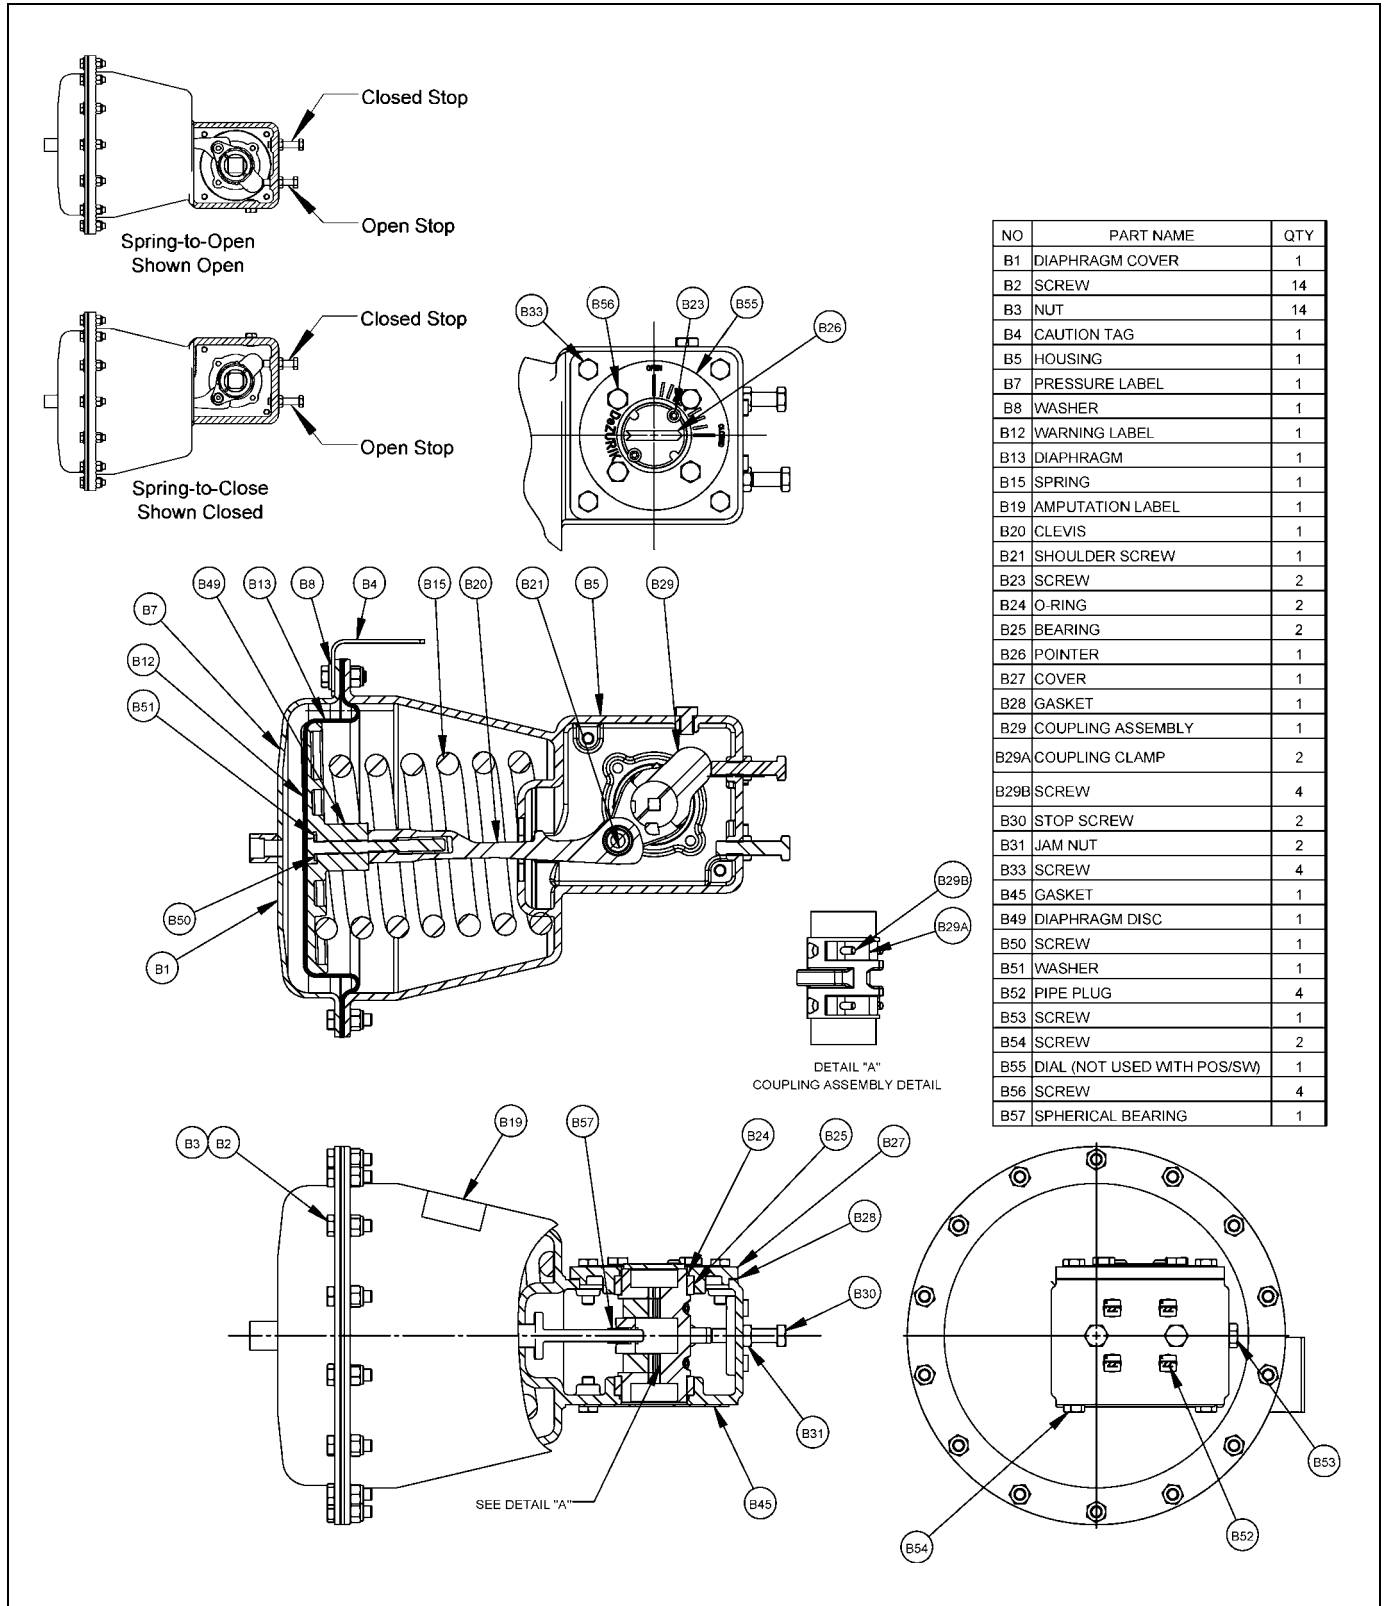
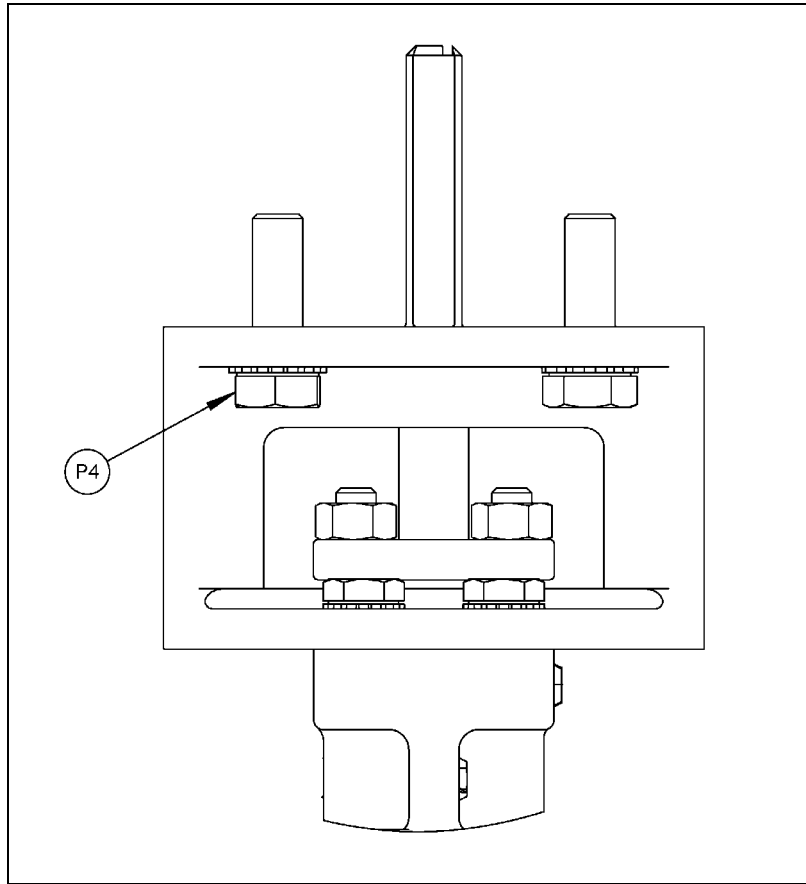

Figure 1—Parts Identification
Figure 2— Connecting Parts Identification
For high vibration installations, additional mounting support is recommended on the diaphragm end of the actuator to prevent damage to the actuator and/or the piping system. Mount the support from the pipeline to at least two of the diaphragm cover screws (B2) shown in Figure 1. Tighten the screws to 80 ± 2 inch pounds (9.0 ± 0.2 Nm).
The actuator is powered pneumatically, and rotates 90 degrees between the open and closed positions. The action of the actuator is either spring-to-close or spring-to-open, as determined by which side of the actuator is mounted to the valve, as shown in Figure 1. The action selected is shown on the actuator label. With spring-to-close, increasing signal pressure to the actuator opens the valve, and decreasing pressure closes the valve; with spring-to-open, increasing pressure closes the valve, and decreasing pressure opens the valve.
The open and closed position stops are the two hex head cap screws (B30) shown in Figure 1. The stops are adjustable, and prevent the actuator from rotating beyond the open and closed positions of the valve. If the actuator is factory-mounted on the valve, the stops are preset and do not require further adjustment.
If the actuator is not factory-mounted on the valve, or if the actuator is removed and/or disassembled, the stops will require adjustment as described below. Refer to the valve Instructions for closed-position information, and adjust the stops with the actuator mounted on the valve. Refer to Figure 1 for parts identification.
2. Loosen the jam nut (B31) on the appropriate stop screw (B30). Refer to Figure 1.
Refer to Figure 1 and Figure 2 for parts identification.
2. Obtain three 5/16" diameter threaded rods, each at least 3" (75mm) long, and nine 5/16" nuts. As shown in Figure 2, assemble one rod and three nuts in each of the three holes from which the screws were removed in the previous step. Jam the double nuts together by tightening to 14 ± 2 foot pounds (19 ± 3 Nm); tighten the single nuts finger right against the cover.
Refer to Figure 1, 2 and 3 for parts identification.